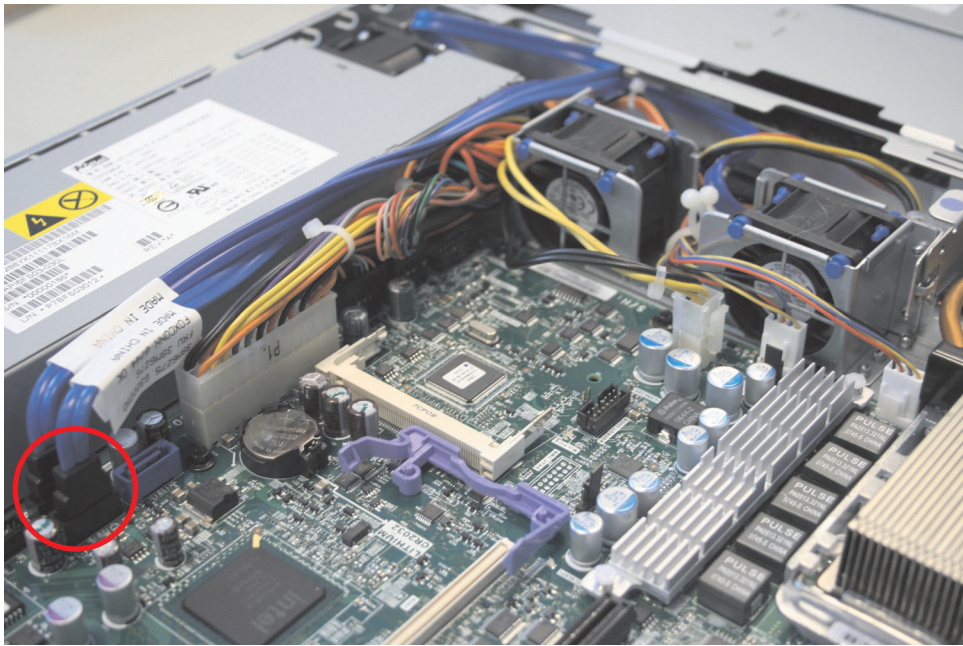

Figure 119. SAN Volume Controller 2145-8A4 SATA cable connectors
8. Notice where the two SATA cables that are connected to the back plate are connected to the system board, as shown in Figure 119. Then disconnect the two SATA cables from the system board.